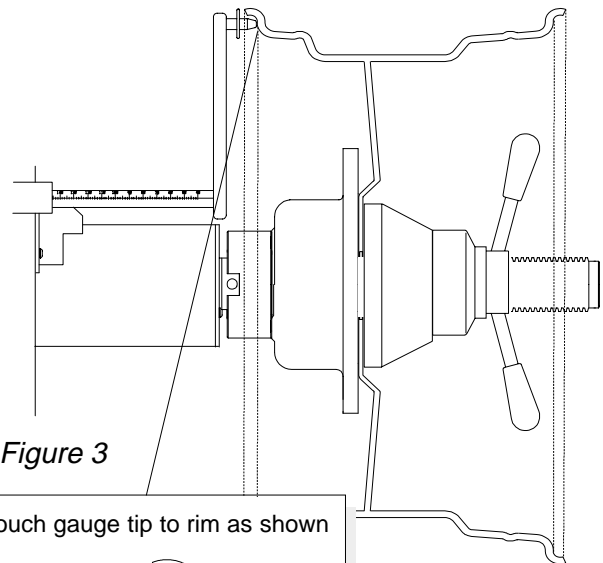

Figure 3
2. To activate the electronic *SAP*E system move the measurement arm to the edge of the rim, touch the pointer to the rim edge as illustrated in *Figure 3* and hold steady for about a second. The brake will pulse and the selected distance and diameter values will be entered automatically. Release the arm, making sure it returns to its home position on the balancer. Do not allow the measurement arm to "dangle" down in front of the balancer.